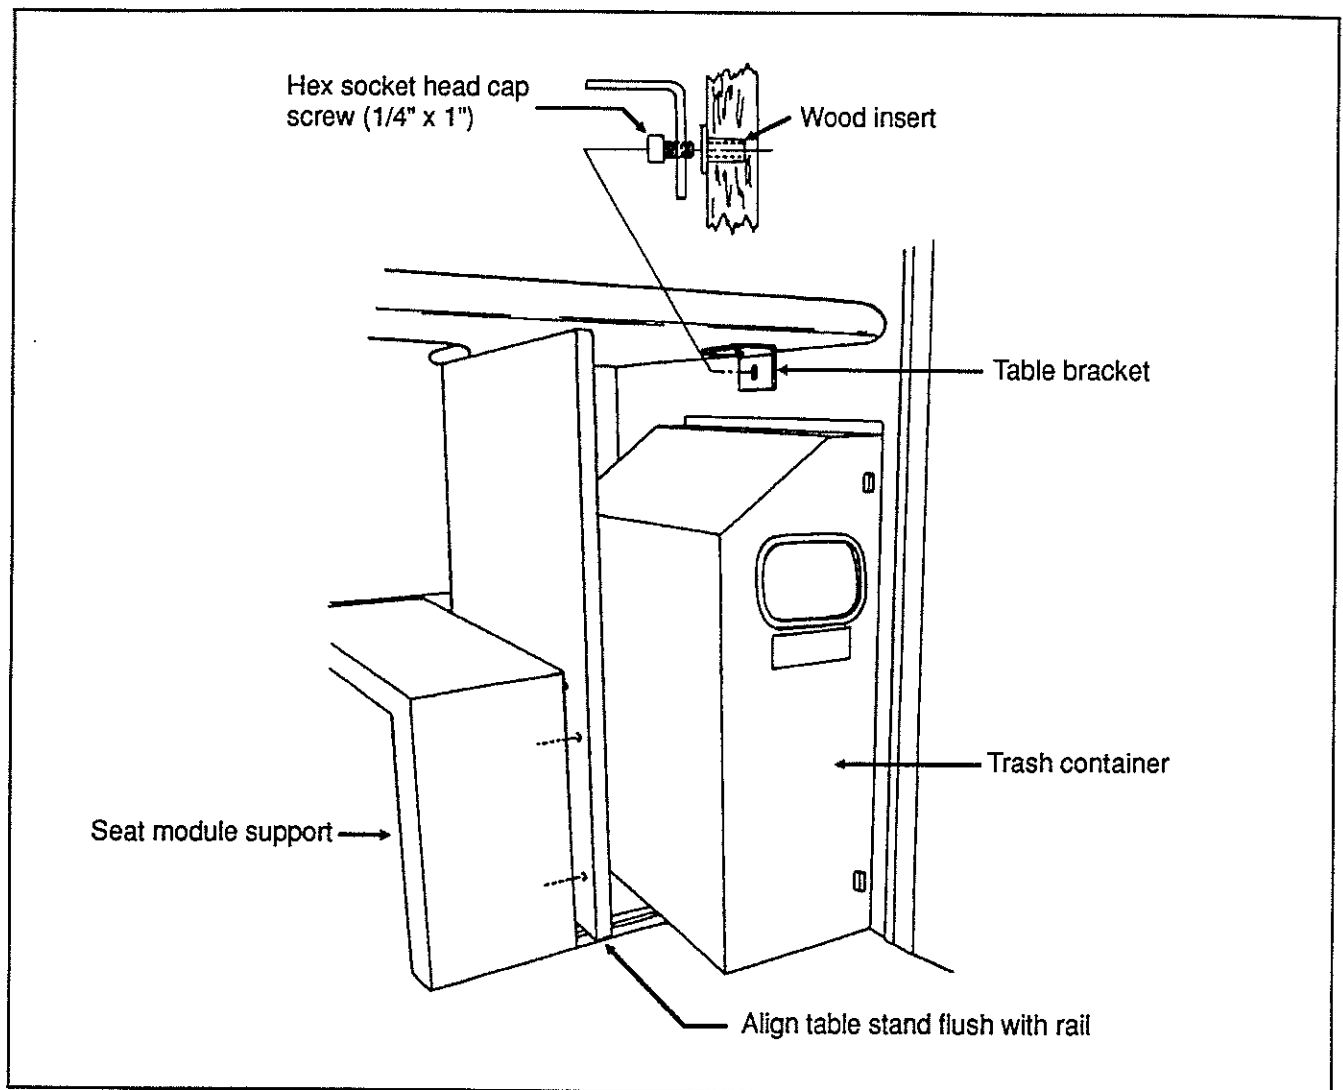

Figure 3 - L-shape table assy (12" wide) Installation
10. Position L-shape table assy (12" wide) over trash container, align table stand flush with floor rail (refer to fig. 3), then using table bracket as a template, mark position of hole to drill on lavatory wall. Be sure to keep table at level while marking.